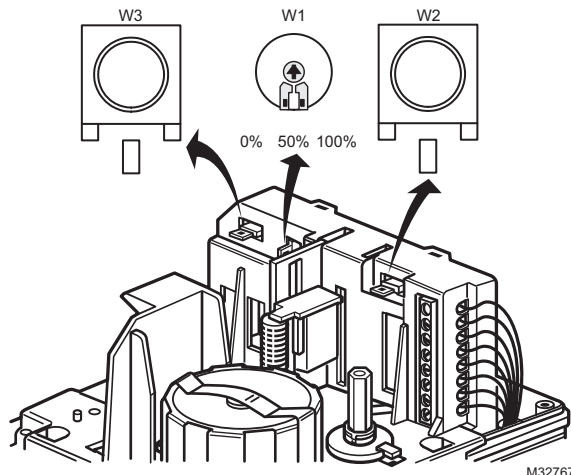

Fig. 12. Location of W1, W2, and W3 selector plugs.
The analog input signal (+) range is set at the factory to 0 to 10 Vdc. Changing the position of the W2 selector plug sets the range to 2 through 10 Vdc. Selector plugs W1, W2, and W3 are positioned on the back side of the printed circuit board. See Fig. 12 for location of the selector plugs.
The direction of the actuator action can be changed using the pushbutton and LED, which is factory set so that the actuator drives the valve stem down on increasing signal and draws the valve stem up on decreasing signal. With the valve stem up, the output signal from the feedback (F) function is either 0 or 2 Vdc. The output of the signal does not change when W3 is used to reverse the actuator action. See Fig. 12.